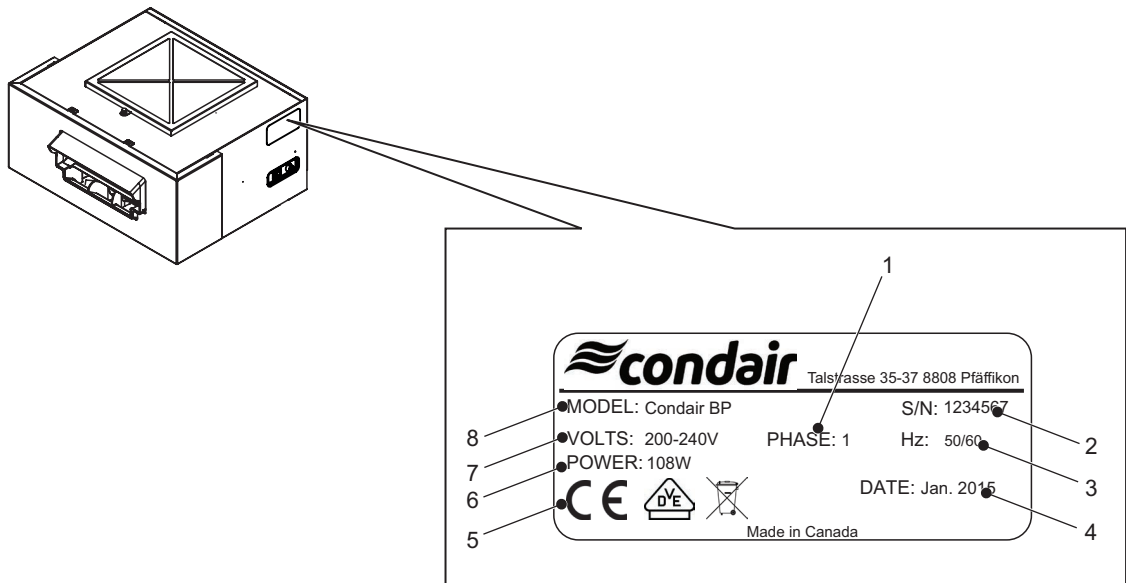

Figure 2: Condair Blower Pack Specification label
- Verify the model type on the specification label to ensure that it is suitable for your installation. Refer to Figure 2 on page 11.
The specification label on the side of the blower pack shows its model type, serial number and other rating details. Refer to Figure 2.
- The available voltage and phase of the power supply should match the requirements for the blower pack, as indicated on the specification label. Refer to Figure 2 on page 11.